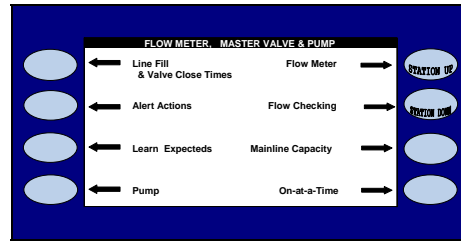

Figure 4.9
The FLOW METER, MASTER VALVE & PUMP screen is displayed (Figure 4.9).
Press the **LEARN EXPECTEDS** Menu key (Figure 4.9).
-  Press the **BACK** key to return to the FLOW METER, MASTER VALVE, & PUMP SETUP screen (Figure 4.9).